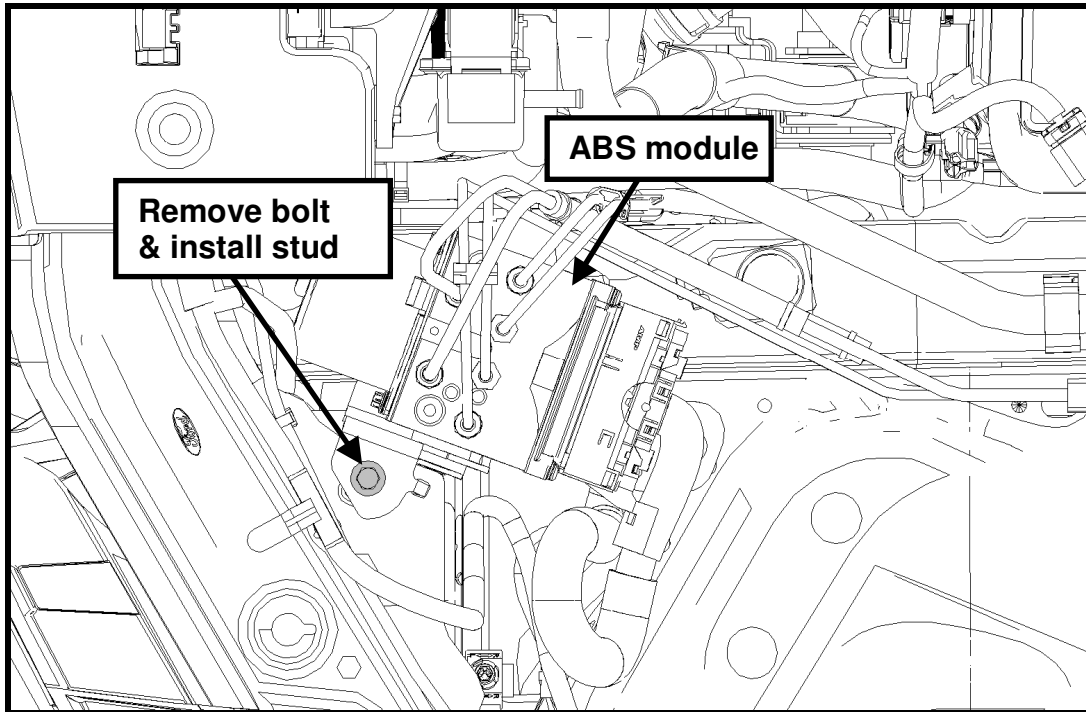

Fig. 5
STEP 2: Locate the ABS module bracket and remove the bolt shown below (Fig. 5). If vehicle is non-ABS, install U-nut 6mm in this location. ABS cars require removal of the 8mm U-nut and installation of the 6mm U-nut.
STEP 3: Install stud 6mm/6mm in this location and torque to 8 Nm (70 lb-in.) (See Fig. 5).